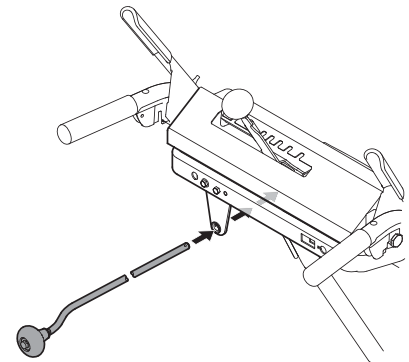

Figure 2-22
4. Insert chute control rod into the support bracket on rear of the dash panel. See Figure 2-22.